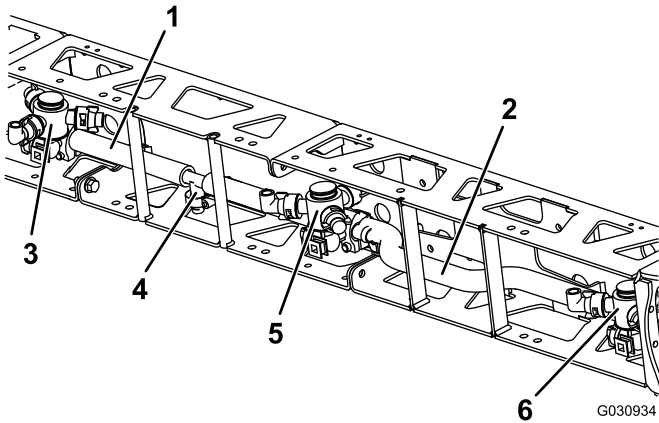

Figure 13
5. Install the right-boom hose to the double-turret body of the center-boom extension and the right, single-turret body (Figure 13).
6. Install the tee that you previously removed and the 2 remaining hoses (9-1/8 inch) as shown in Figure 13.